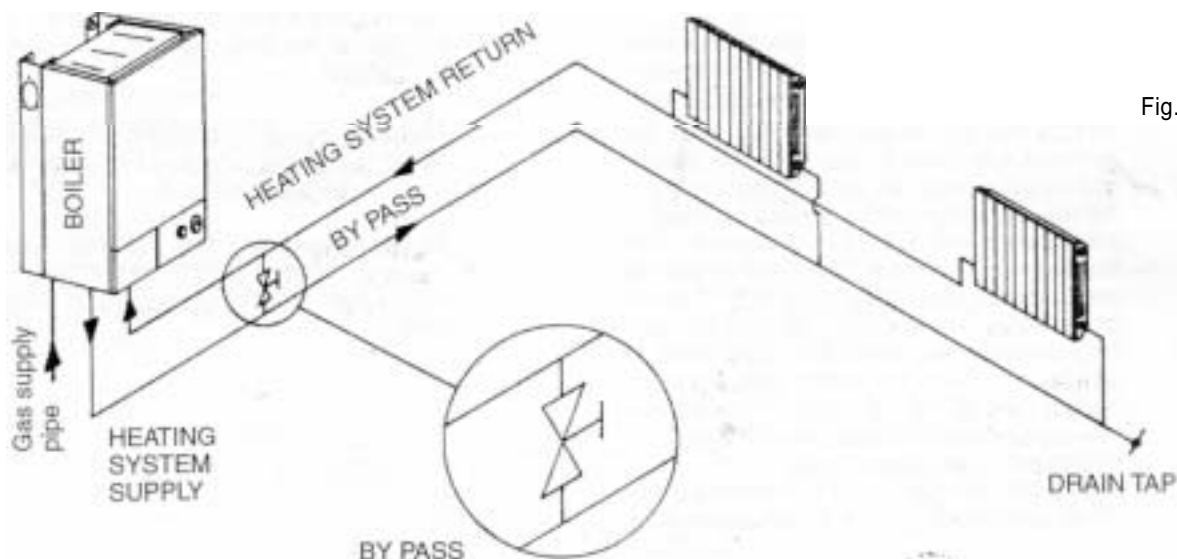

Fig. 6A
4.8.3 The water through the appliance heat exchanger circuit must exceed the min. 2.38 gals/min. (650 lt/h) when the burner is firing. It is important to ensure that this rate is achieved when sections of the system are shut off either manually or by automatic controls. **Therefore a by-pass must be fitted to the system (15 mm min.) (Fig. 6A).**